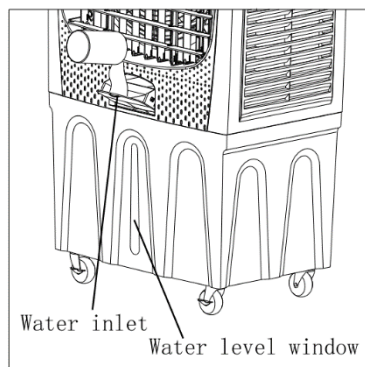

fig.2
4. Add water from the water inlet on the front cabinet.(shown as fig.2)
- a) Water level must be between the MIN and MAX line.(shown as fig.2)